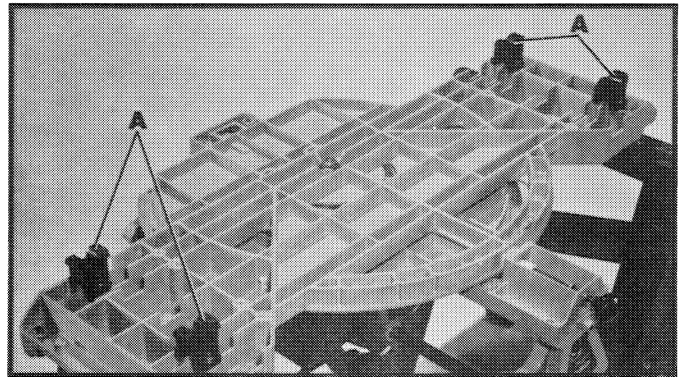

Fig. 2
2. Fig. 2, illustrates the four outside leg brackets (A) assembled to the bottom of the saw.